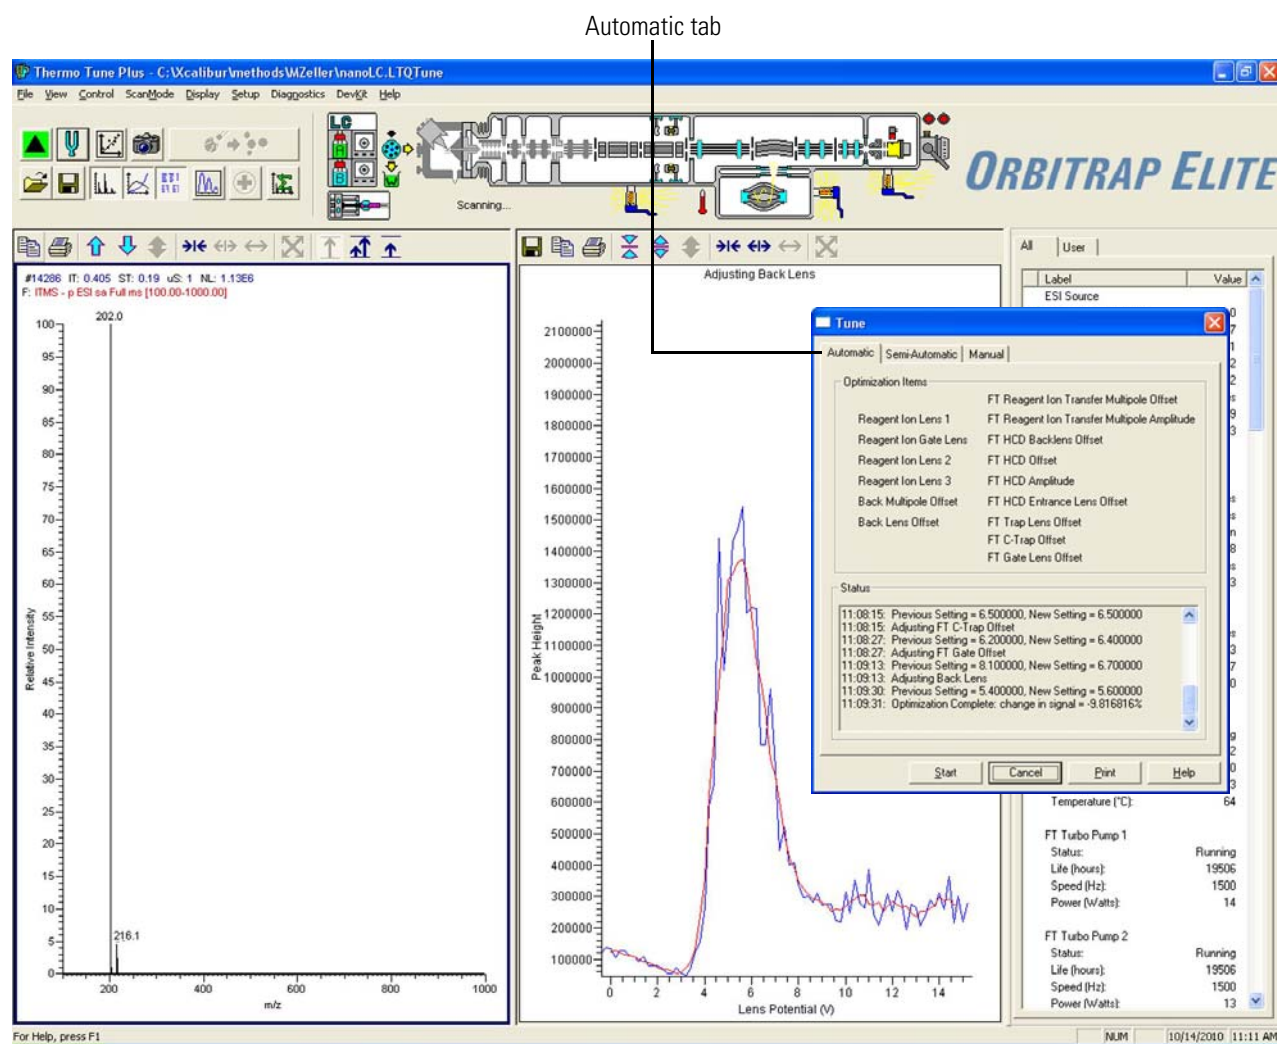

Figure 7-12. Tune Plus window with Automatic page of Tune dialog box displayed
7. The left side of the underlying view shows the reagent ion spectra (fluoranthene). See Figure 7-12 on page 7-14. The center view shows one of the parameters that are automatically tuned (back lens potential tuned to maximize the signal intensity at m/z 202).